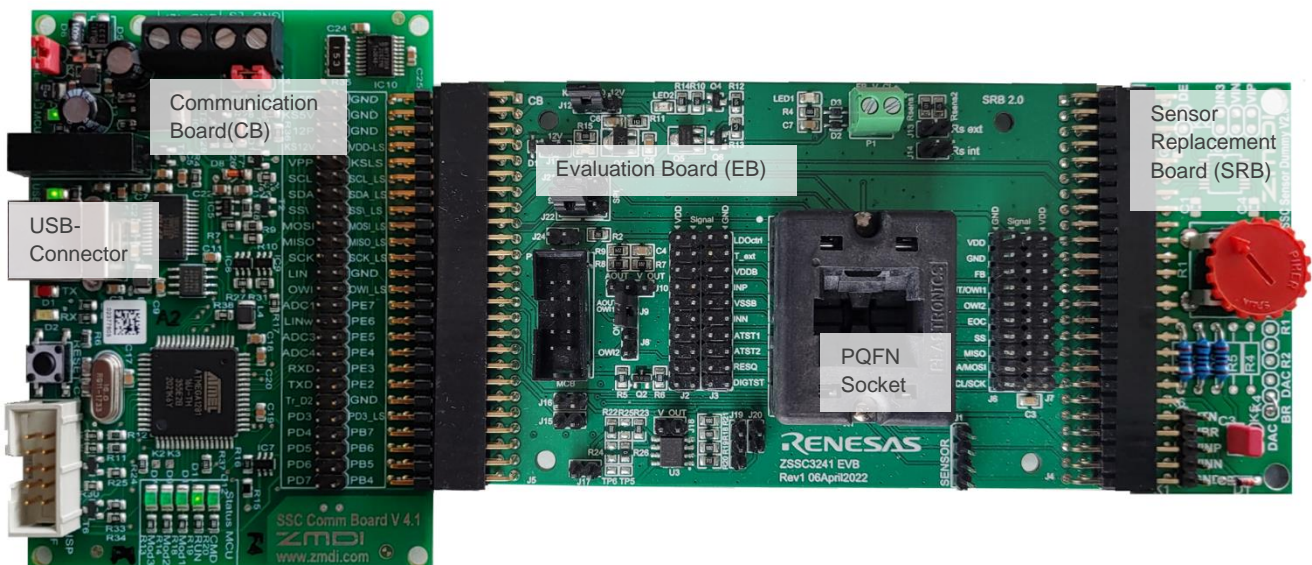

Figure 2. Connected ZSSC3241 Evaluation Kit
| Figure 2. Connected ZSSC3241 Evaluation Kit | 6 |
2. Connect the kit hardware as shown in Figure 2 to the host PC using the provided USB cable.